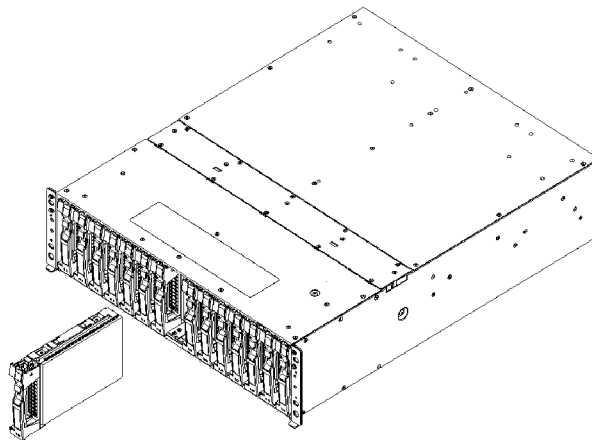

Figure 3-2. Installing the Drive Module into the Drive Bay
- With the ejector of the disk module opened, engage the guides on the top and bottom faces of the disk module with the guide grooves on the disk enclosure and insert the disk module into the drive bay. See Figure 3-2.